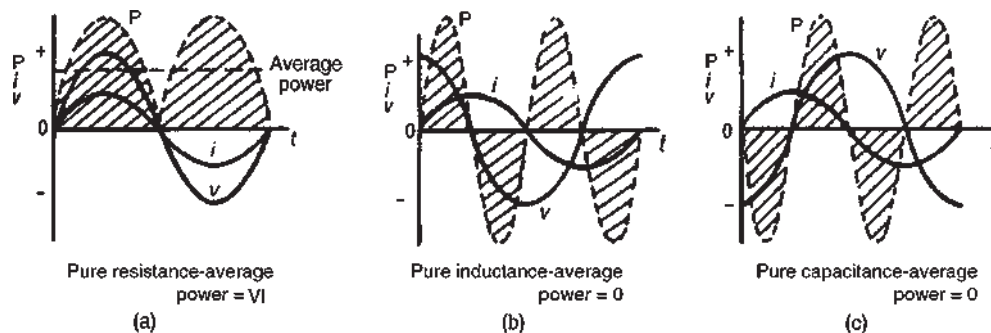

Figure 15.23
In Figs 15.23(a)–(c), the value of power at any instant is given by the product of the voltage and current at that instant, i.e. the instantaneous power, $p = vi$, as shown by the broken lines.
- (a) For a purely resistive a.c. circuit, the average power dissipated, P , is given by: $P = VI = I^2 R = V^2/R$ watts (V and I being r.m.s. values) See Fig. 15.23(a)
- (b) For a purely inductive a.c. circuit, the average power is zero. See Fig. 15.23(b)
- (c) For a purely capacitive a.c. circuit, the average power is zero. See Fig. 15.23(c)